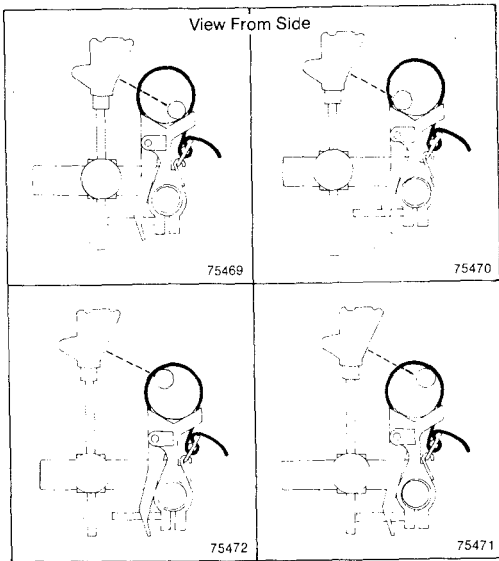

Fig. 18—Positioning splice heads.
- b. Start with the back bottom group. Position the splice head to allow 4" (101 mm) of slack in group between the cable butt and connector. Adjust for each group. See Figure 18.